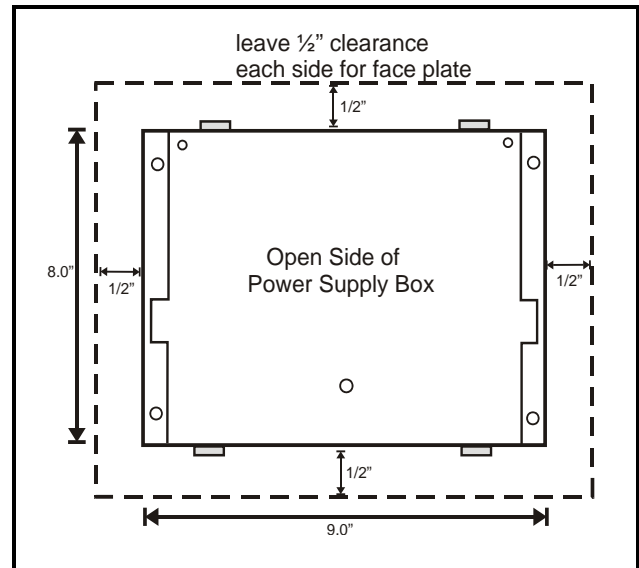

Figure 2-5 - Leave 1/2" For Face Plate Mounting
1. Cut a rectangular hole into the mounting surface 8.0" high by 9.0" wide, by at least 3.875" deep (20.32 cm high by 22.86 cm wide by at least 9.84 cm deep). When cutting the mounting hole, allow at least 1/2" (1.27 cm) clearance around the hole for face plate mounting (*Figure 2-5*).